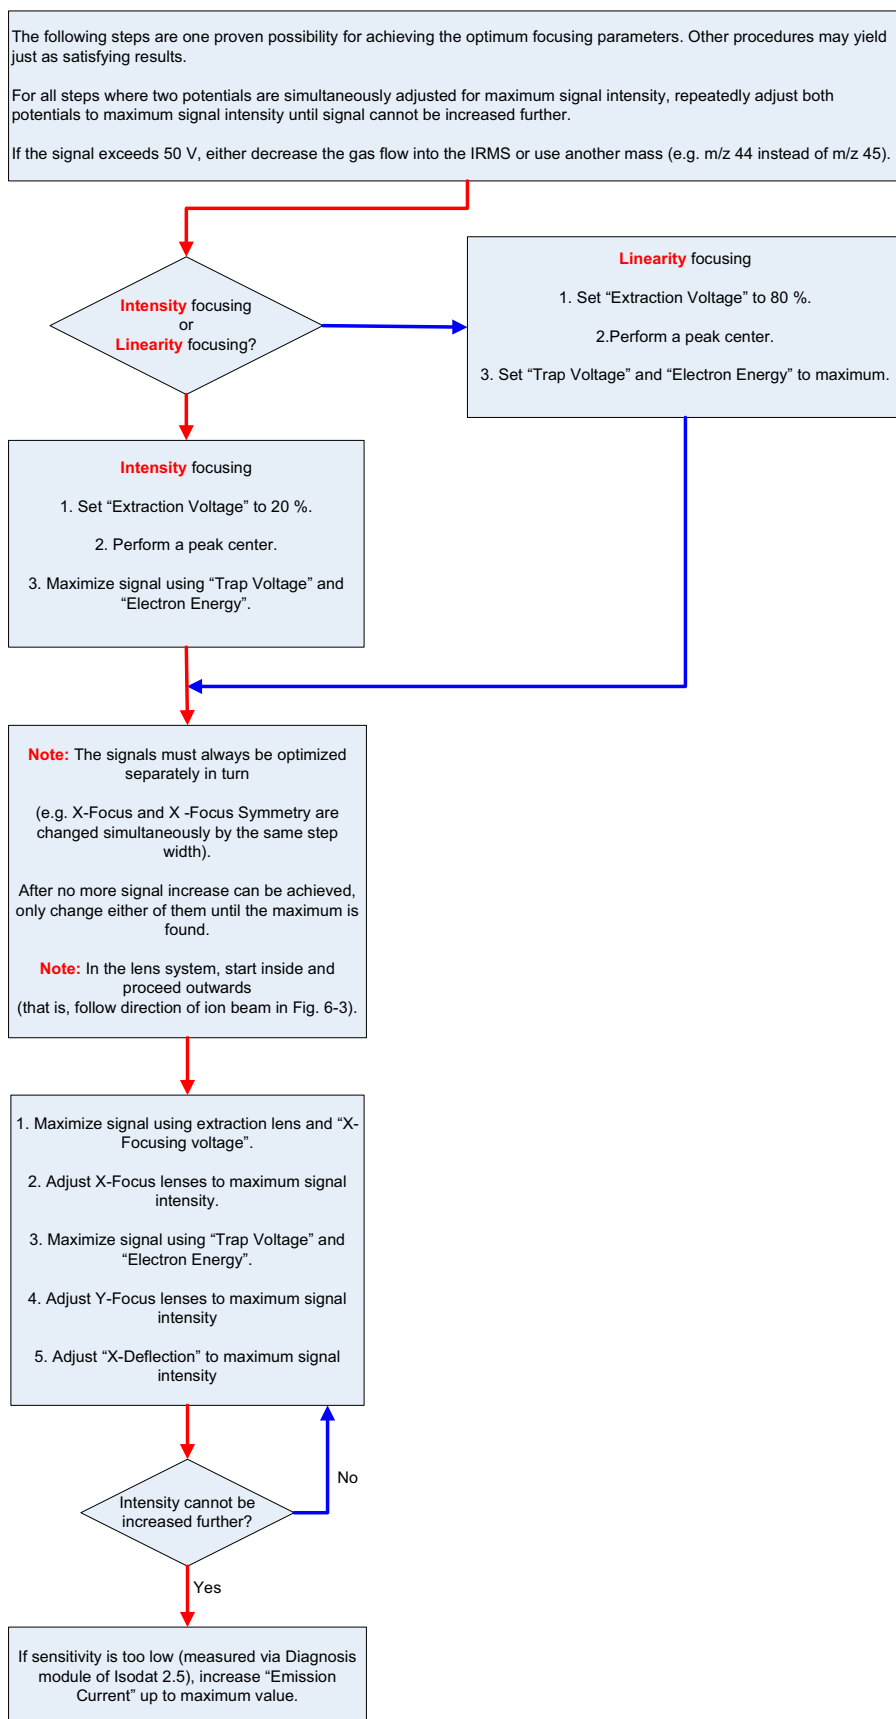

Figure 6-7. Focusing
3. Perform focusing as depicted in Figure 6-7.